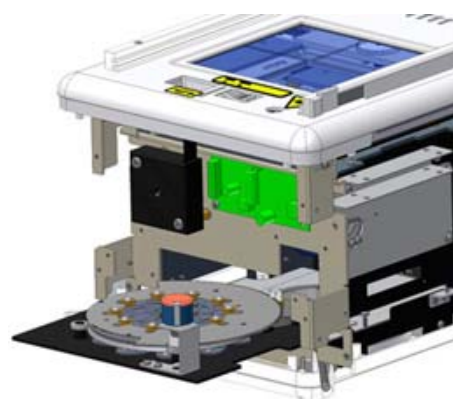

Fig. 5
- Remove the iris support plate, see **Fig. 5**
- Remove the iris support plate, see **Fig.5**